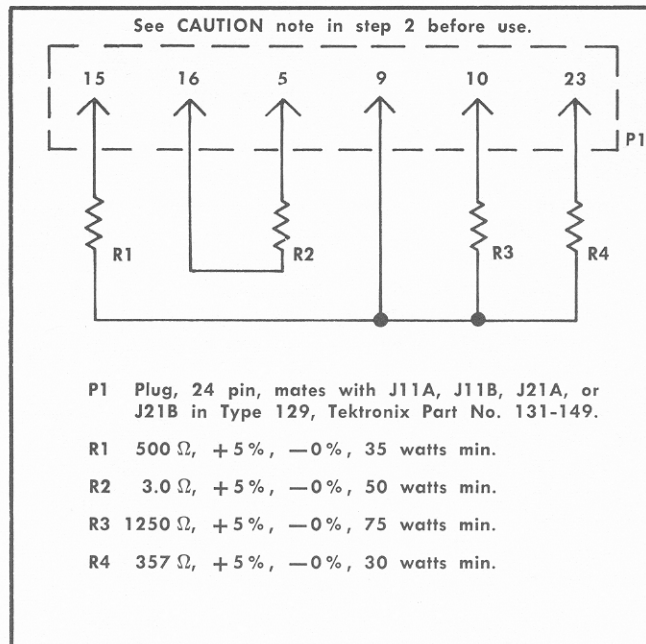

Fig. 4-2. Load bank for Type 129.
5. Load bank (see Fig. 4-2) or optional loads as described in step 2 of the procedure.
8. (Optional) Tektronix Type 3A75 or similar wide-band plug-in unit for use with item 6 in step 3 of the procedure. Bandwidth should be at least 1 mc.
9. (Optional) Tektronix X10 probe such as the P6006 for use with item 8.
most demanding test of regulation. To establish maximum load, it is suggested that all plug-in units, output-circuit cards, and auxiliary loads be disconnected and replaced by a special load bank (see Fig. 4-2). However, a satisfactory test can be made without the special load bank if the supplies loaded by the same plug-in units, output-circuit cards, and auxiliary loads (if any) which will be used with the Type 129 following calibration.